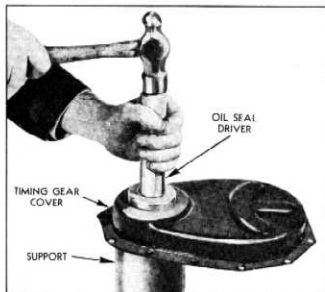

Fig. 33—Installing Timing Gear Cover Oil Seal
2. Install new seal so that open end of the leather is toward the inside of cover and drive it into position with oil seal driver J-995 (fig. 33).